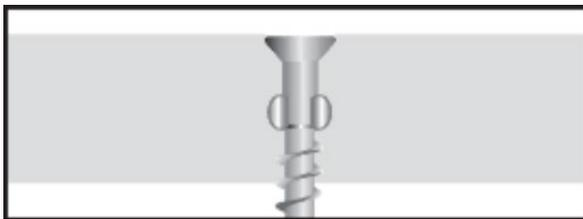

FIGURE 1
**3.3.1 General:** ResinDek® shall be installed with the label side of the panel facing upward. The panels shall be installed on corrugated metal deck by using a screw gun with an operable clutch. The screw heads shall be driven to just below the panel surface (See Figure 1).